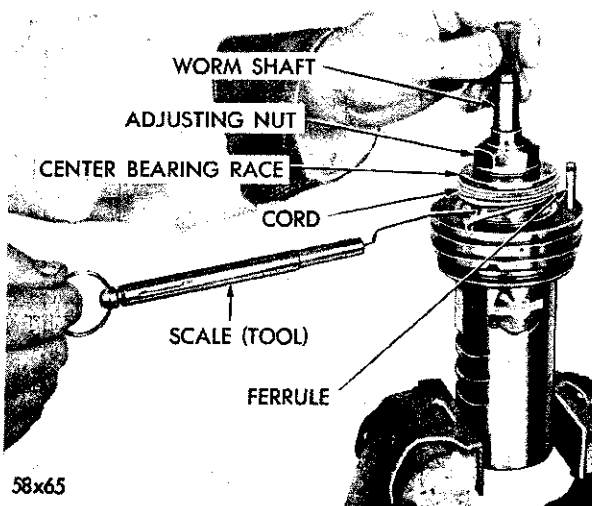

Fig. 27—Adjusting the Center Bearing Race Pre-Load
(5) Loosen the adjusting nut. Place several rounds of cord around the center bearing race (Fig. 27). Make a loop in one end of the cord and hook the loop of a distributor breaker arm spring scale Tool MTU-36 in the cord loop. Pulling the cord will cause the bearing race to rotate. Retighten the worm bearing adjusting nut while pulling on the cord with the scale. If the adjusting nut is tightened properly, reading on the scale should be 16 to 24 ounces (20 ounces preferred) while the bearing race is turning.